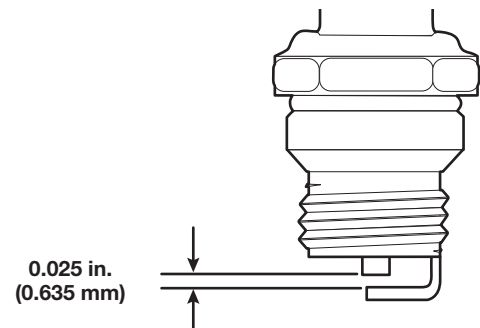

Fig. 34
4. Use a feeler gauge to set the air gap at **0.025 in. (0.635 mm)** (Fig. 34).